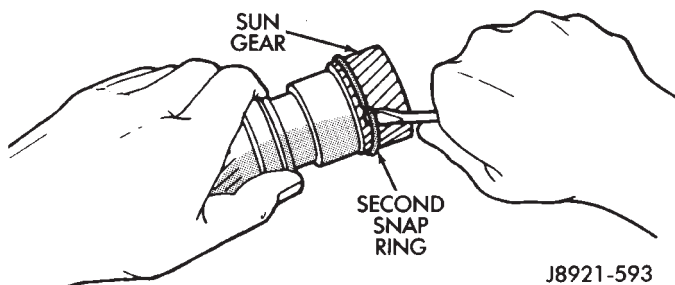

Fig. 7 Removing/Installing Second Snap Ring
(6) Remove remaining snap ring from sun gear (Fig. 7).